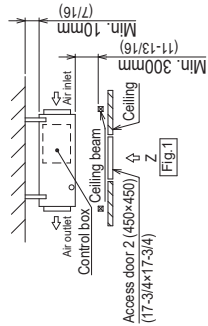

Fig.1
- (1) When a space of 300mm or more is available below the unit between the unit and the ceiling. (Fig.1)